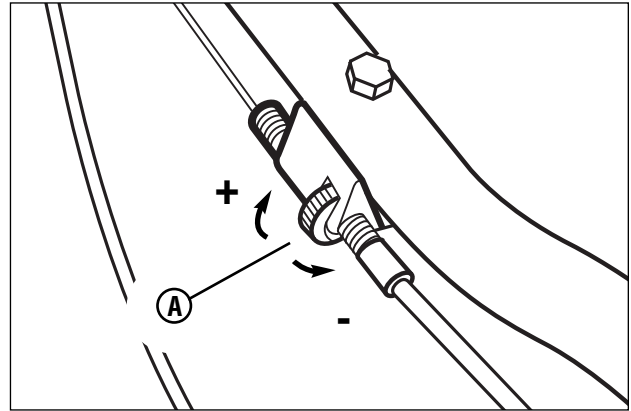

Figure 20: Adjusting the transmission spring tension
- b. To increase (+) the extended spring length, rotate the thumb wheel (A, Figure 20) upwards (counter-clockwise, from operator's perspective).